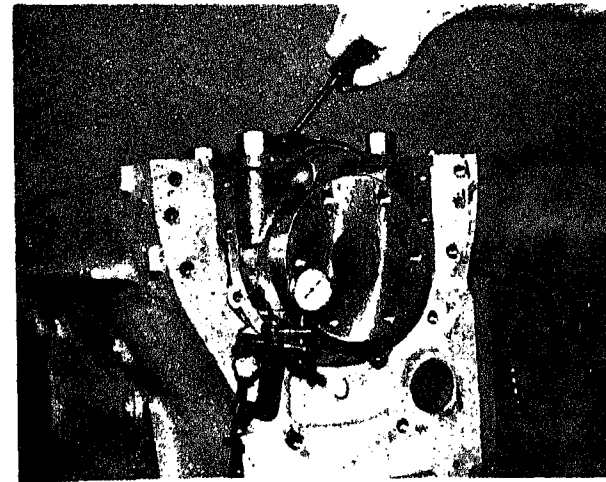

Fig. 14-1-5. Checking crankshaft end play
3. Pry crankshaft toward rear of block, Fig. 14-1-5; remove pry bar and read gauge. Total gauge reading should be 0.004/0.015 in. [0.1016/0.3810 mm] with new (or rebuilt) crankshaft and new thrust rings.